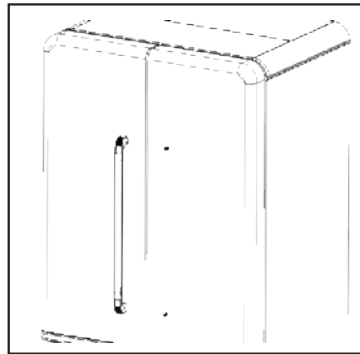
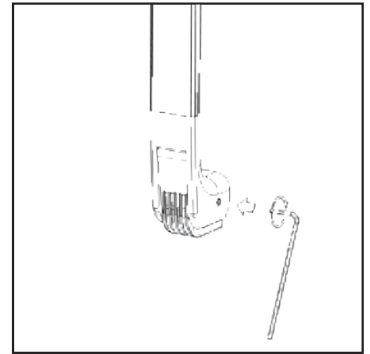

Fig. 3
Fig. 4
- 2) Place provided fridge handle on to the screw caps on fridge door (Fig. 3) making sure that the smaller holes on the handle face the inner edge of the door, and that the screw goes into the center hole at each end of the handle. Tighten the screws using the provided 2.5 mm Allen key (Fig. 4.)